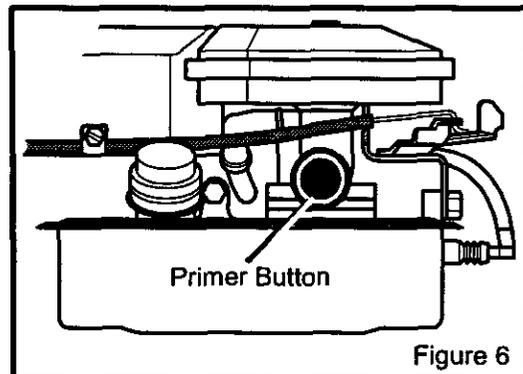

Figure 6
4. The **primer button** is on the side of the engine (Figure 6). Push the **primer button**. Every time you push the **primer button**, wait two seconds. For the number of times required to push the **primer button**, see the engine manufacturer's instructions.